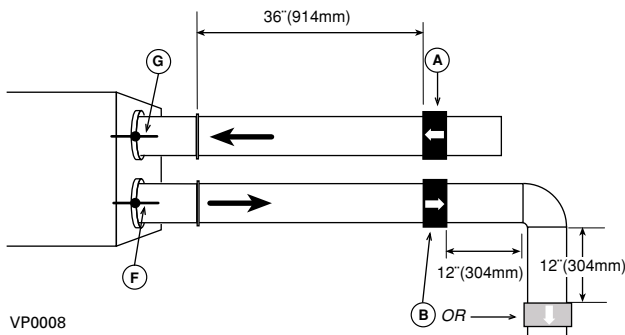

Figure 5
Seal all the unit ductwork with tape. Close all windows and doors. Turn off all exhaust devices such as: range hoods, dryers and bathroom fans. Make sure balancing dampers are fully opened (F and G in Figure 5 below).
Choose appropriate locations for the 2 flow collars according to Figure 5:
3. Connect tubing from gauge to flow collar in exhaust air stream at location A (Figure 5 on page 9). Be sure to connect the tubes to their appropriate *high / low* fitting. If the gauge reading drops to below zero, reverse the tubing connections.
4. Move tubing to the other side of the unit (location B in Figure 5 on page 9) and note reading. Adjust the fresh air balancing damper F until the reading at B is approximately the same as the reading at A.